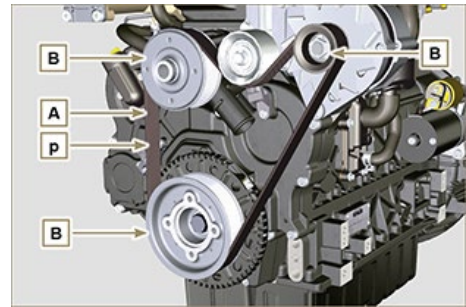
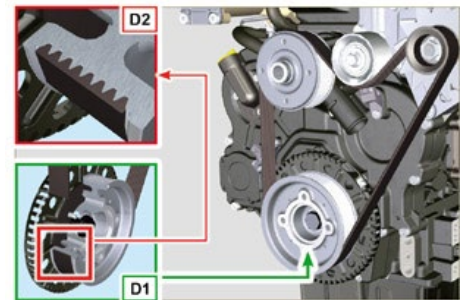

Fig 5.14
Fig 5.15
**NOTE:** Make sure that the ribs of the belt **A** are inserted correctly into the grooves of the pulleys **B** (as shown in Fig. 5.14 and Fig. 5.15).